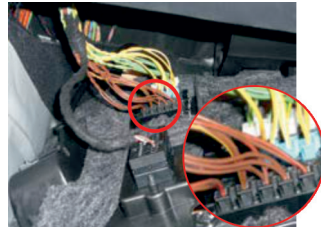

Figure 2
2. To the CAN-bus at the CAN distributor located on the plastic cover to the left and above the driver's footrest (see figure 2).